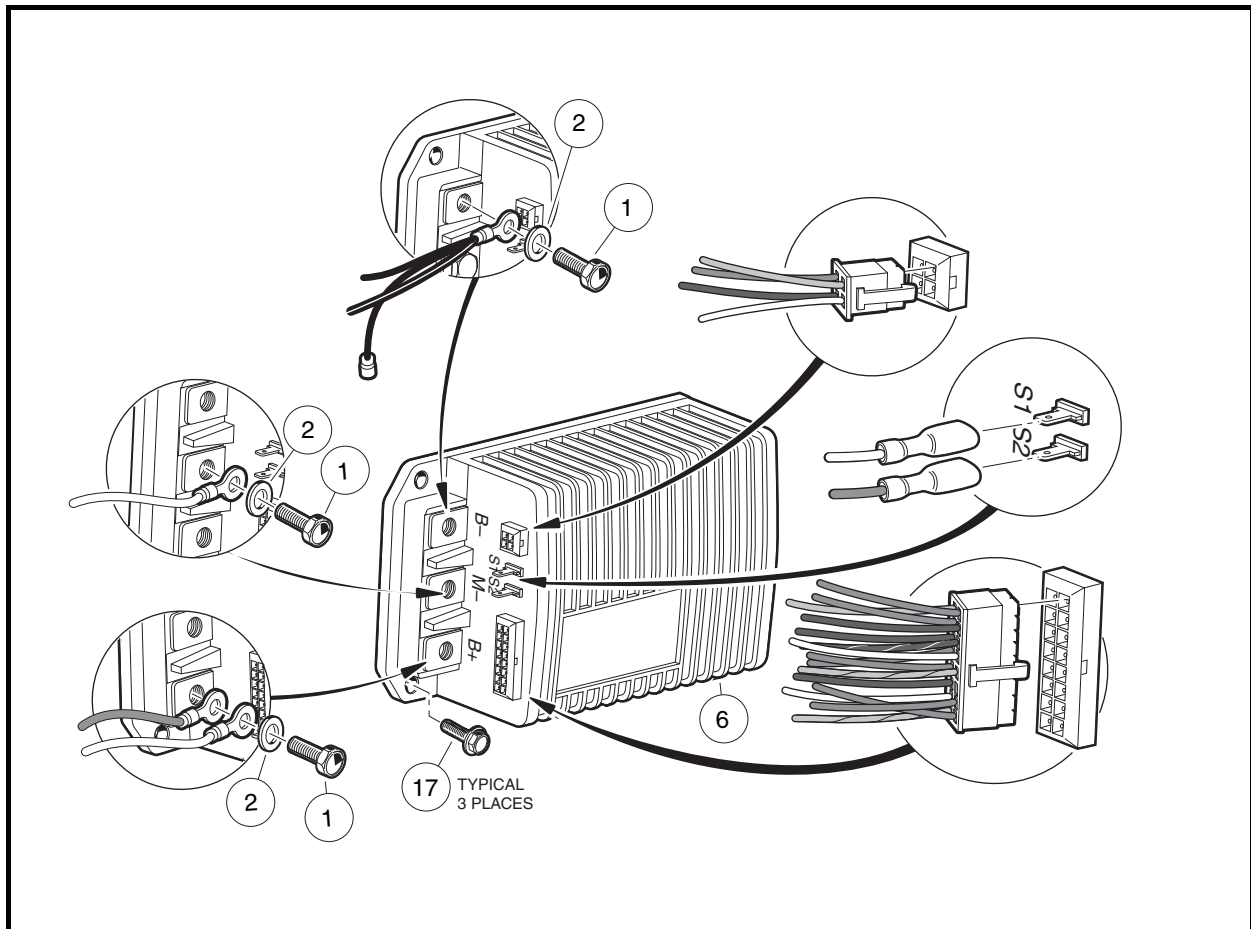

Figure 13-11 Speed Controller
4. Disconnect all wires and multi-pin connectors from the speed controller (**Figure 13-11, Page 13-12**).
- Remove the three self-tapping screws (17) that hold the controller (6) to the component mounting plate and remove the controller from the vehicle.
- Install the three self-tapping screws (17) that hold the controller (6) to the component mounting plate and tighten to 60 in-lb (6.8 N·m) (Figure 13-11, Page 13-12).
- Using the wiring diagram, install the multi-pin connectors and all wires as illustrated. See Wiring Diagrams, Section 11, Page 11-2. Tighten bolts (1) to 9 ft-lb (12.2 N·m) (Figure 13-11, Page 13-12).